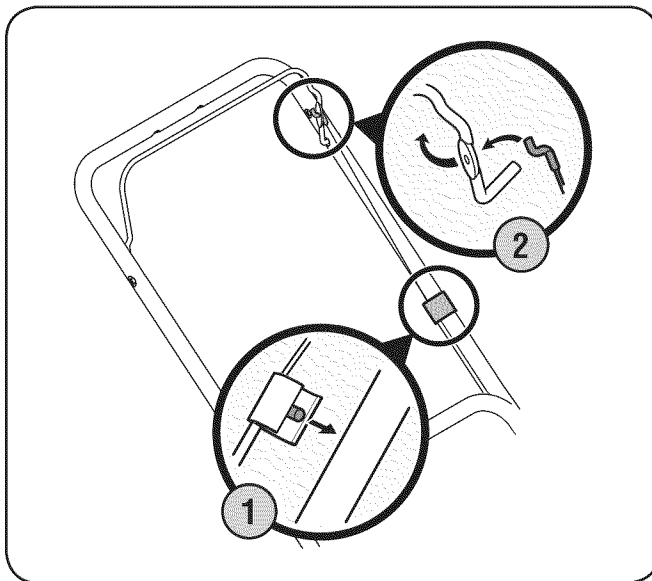

Figure 3-5
1. Unwrap the cable from the engine and route the cable under the lower handle. Press the snap fitting into the hole on the upper handle as shown in Fig. 3-5.
2. Hook the "Z" end of the blade control cable into the blade control from the outside to the inside. See Fig. 3-5.